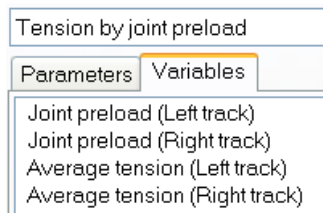

Figure 2.8. List of standard variables of the test
- Open a new graphic window and drag two variables from the list by the mouse into the window: preload and tension, Figure 2.8.